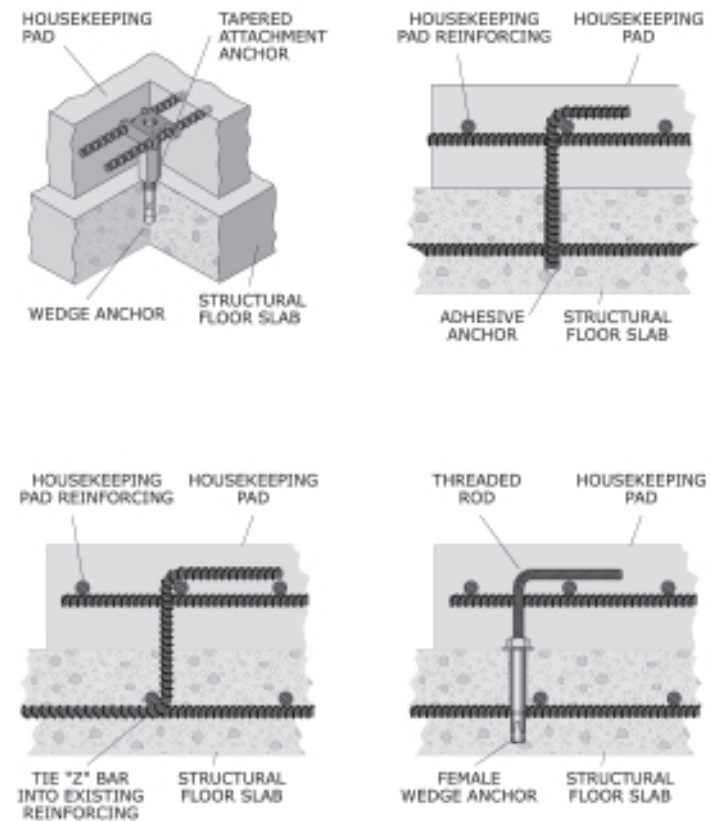

Figure 163: Doweling to the building floor.
Attachment details for dowels are shown in Figure 163 (below).
- Coordinate the location of embedded "Z" bar shown in Figure 163 with the concrete subcontractor.